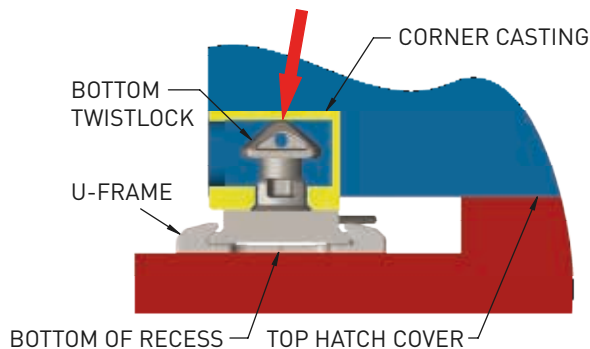

FIGURE 2
- **Figure 2:** A standard twistlock is used instead of a line load twistlock